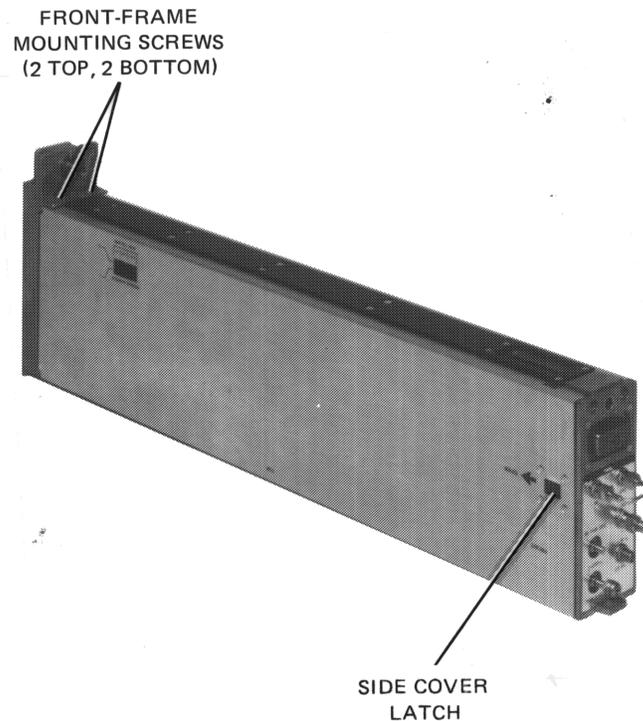

Figure 5-20. RF Front-Frame Removal
1. Remove the module side-covers by sliding each cover latch forward, and removing the covers from the module. See Figure 5-20.
3. Remove the four module frame-screws (two top, two bottom). See Figure 5-20. Lift the front-panel assembly from the module. Unplug the connecting cable and lift the frame assembly from the module housing.